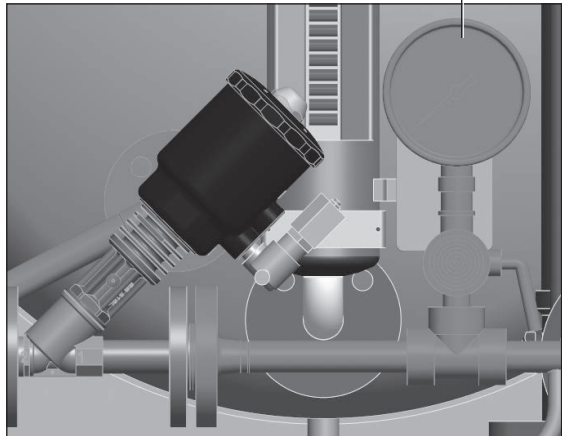

Fig. 16
5.4.6 Pressure gauge (clean steam/feedwater) - Figure 16